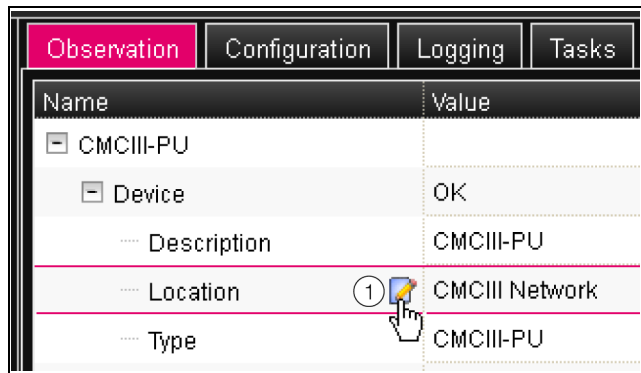

Fig. 32: Editable parameter with "edit" symbol
For all parameters that can be changed, an "edit" symbol in the form of a stylised notebook with pencil appears behind the associated parameter when you place the mouse cursor in the appropriate row (fig. 32, item 1).